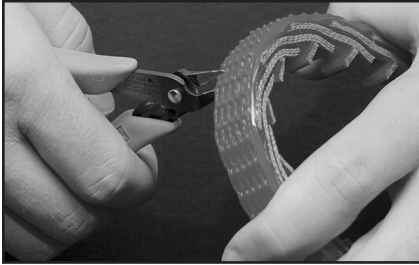

Fig. 2
- Using clippers or a utility knife, cut the PVC or PU layer of the belt. Do not cut into the base belt. See Fig. 2.